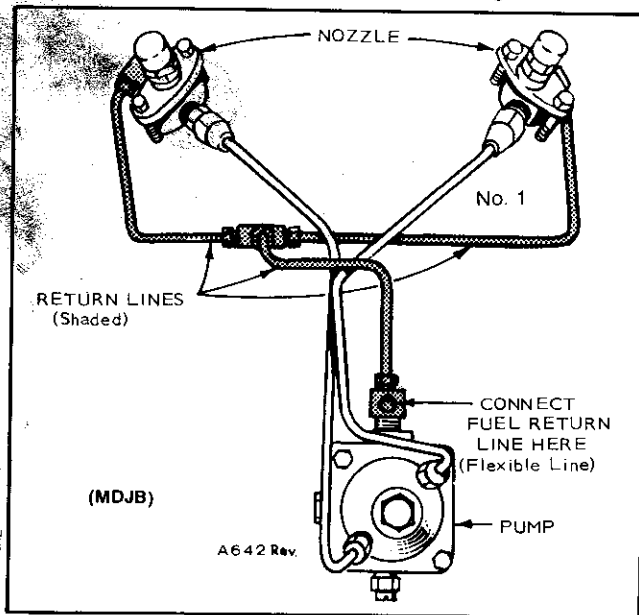

FIGURE 3-38. FUEL LINES TO INJECTORS
3. Remove No. 1 injector line; re-install line with top end of line in pump outlet so other end will direct fuel flow into an open container, Figure 3-38.